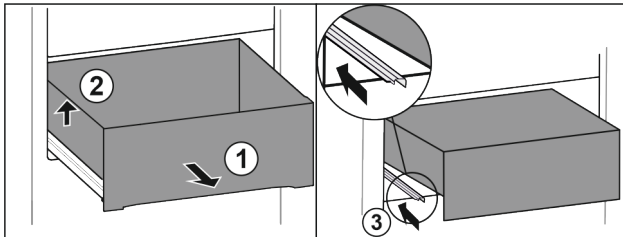

Fig. 126
- ▶ Pull out drawer as far as it will go. Fig. 126 (1)
- ▶ Lift drawer on the left. Fig. 126 (2)
- ▶ Insert left rail. Fig. 126 (3)